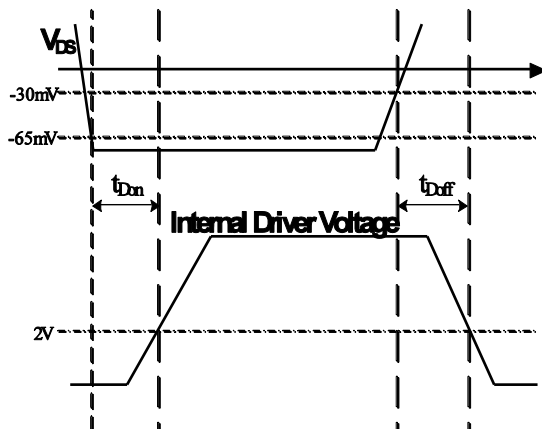

Figure 2: Turn-On and Turn-Off Delay
1. Turn-On Phase: The switch current first flows through the body diode of the integrate MOSFET, which generates a negative V_{DS} across it (less than -500mV). The voltage is much smaller than the turn-on threshold of the control circuitry (-65mV), which turns on the integrated MOSFET after a 200ns turn-on delay (see Figure 2).
3. **Turn-Off Phase:** When V_{DS} rises to trigger the turn-off threshold (-30mV), the driver voltage of the switch is pulled low after about 30ns of turn-off delay time by the control circuitry (see Figure 2). Similar with the turn-on phase, a 200ns blanking time is added after the switch is turned off to avoid an erroneous trigger.